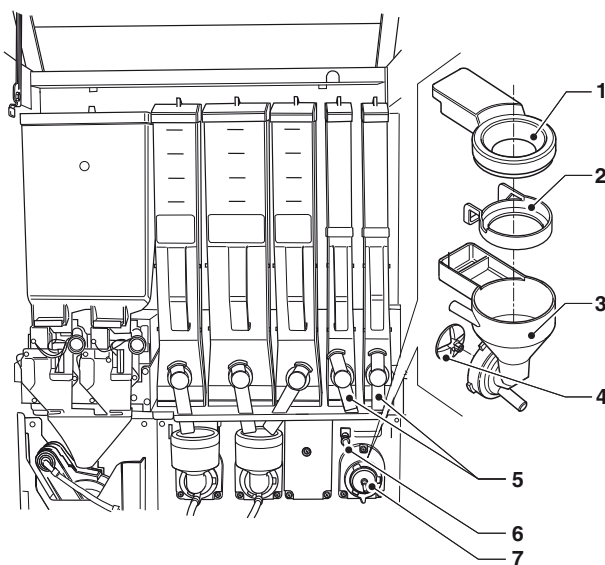

Fig. 9
- Remove (see Fig. 9) the powder funnels, the water conveyors, the powder deposit funnels and the mixer fans from the mixers;